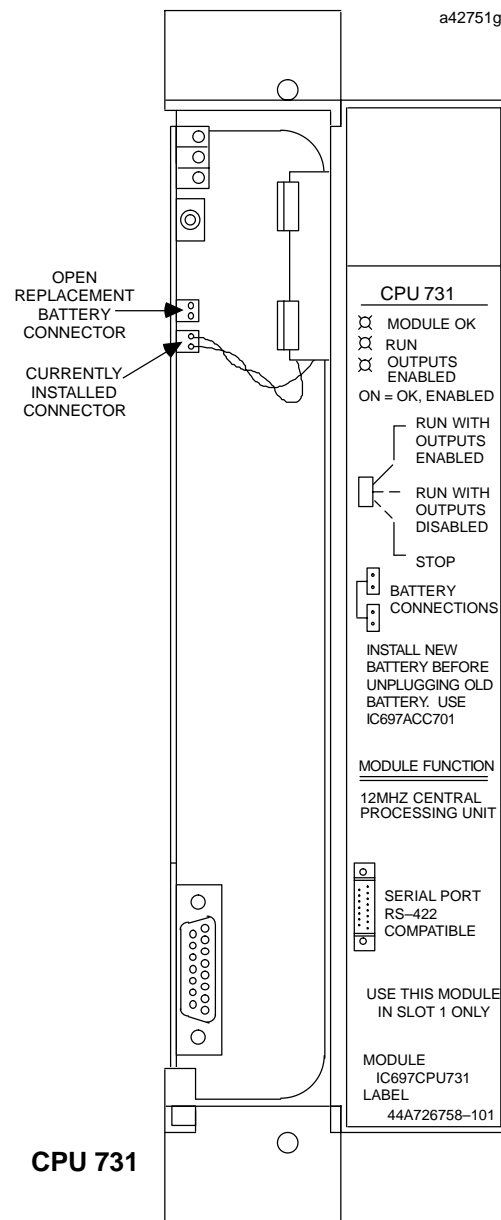

Figure 2. CPU 731- Location of Major Features
- Connect the battery to either of the battery connectors on the module (see Figure 2).
A lithium battery (IC697ACC701) is installed as shown in Figure 2. This battery maintains program and data memory when power is removed and operates the calendar clock. Be sure to install the new battery before removing the old battery. If during power-up diagnostics a low battery is detected the Module OK LED (top) will not stay on. Specific indication of a low battery state is detailed in Reference 2.